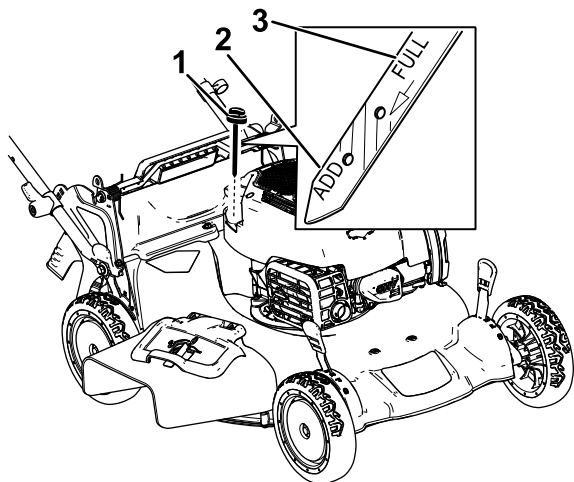

Figure 14
2. Remove the dipstick by rotating the cap counterclockwise and pulling it out (Figure 14).
5. Read the oil level on the dipstick (Figure 14).
- If the oil level on the dipstick is too low (Figure 14), carefully pour a small amount of SAE 30 or SAE 10W-30 detergent oil into the oil-fill tube, wait 3 minutes, and repeat steps 3 through 5 until the oil on the dipstick is at the correct level.
- If the oil level on the dipstick is too high (Figure 14), drain the excess oil until the oil on the dipstick is at the correct level; refer to Changing the Engine Oil (page 16).